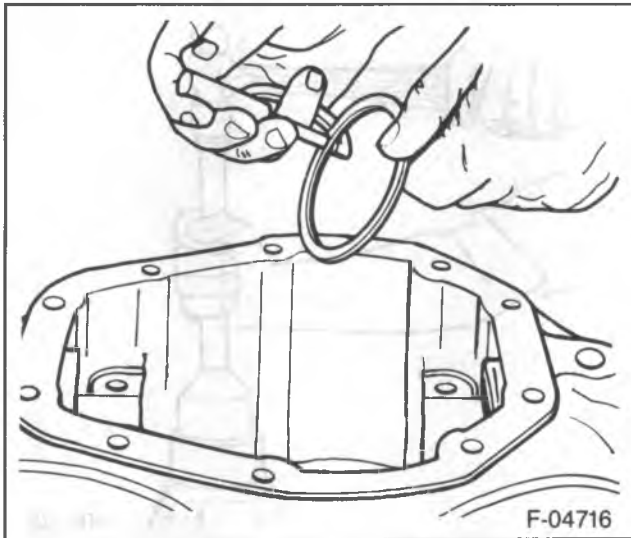

Figure 28—Measuring the Shims
9. Measure each shim separately with a micrometer and add them together to obtain the total shim pack thickness. If a baffle (5) or slinger is used, these must also be measured and included in the shim pack (figure 28).